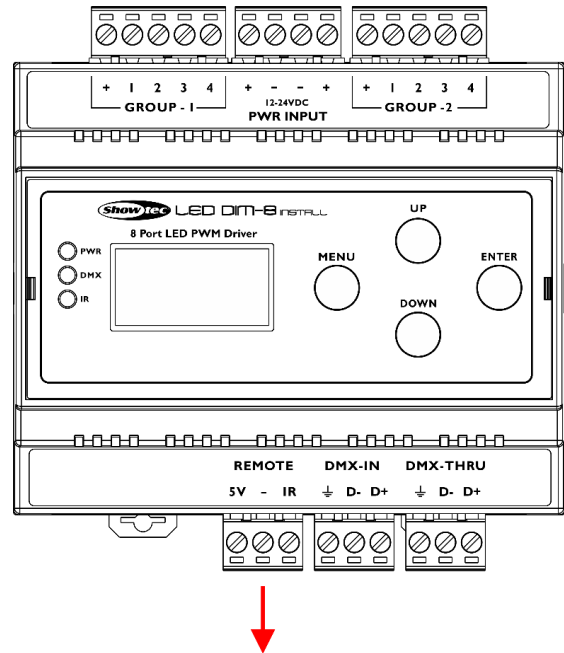

Fig. 12
- 01) Remove the **3-pin Phoenix terminal connector IR sensor IN (07)** (see Fig. 12).
- 02) Connect a common available IR sensor to the **3-pin Phoenix terminal connector IR sensor IN (07)** of the device. Make sure that the cables are connected correctly.
- 03) Put the **3-pin Phoenix terminal connector IR sensor IN (07)** back in the device.